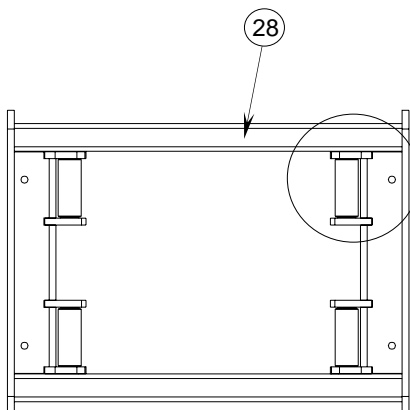

Fig. 19
1. Lubricate skid plate surface of the hitch (see figure on cover of Manual) with automotive type chassis grease or use a plastic lube plate to provide a lubricated surface. Plastic lube plates (Reese No. 74295) can be used to avoid messy grease. The plastic lube plate must not exceed 3/16 of an inch in thickness to ensure hitch will operate properly. Lube plates must be 10 inches in diameter or larger to properly distribute king pin weight. Use engine oil or spray lube to lubricate pivot points of moving parts within the hitch. (See Fig. 19 - 22)
3. Lubricate with engine oil or spray lube at locations shown in the following diagrams (Fig. 19 through 22).